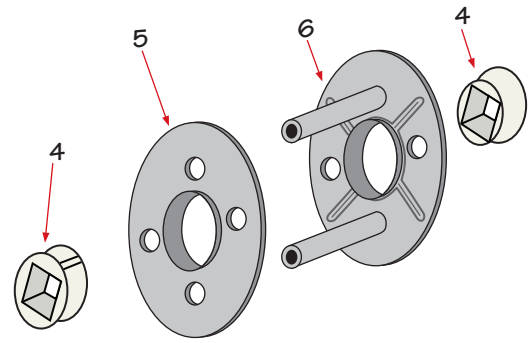

FIGURE 2
3. Insert nylon self-alignment plugs into both mounting bracket plates. (Figure 2)